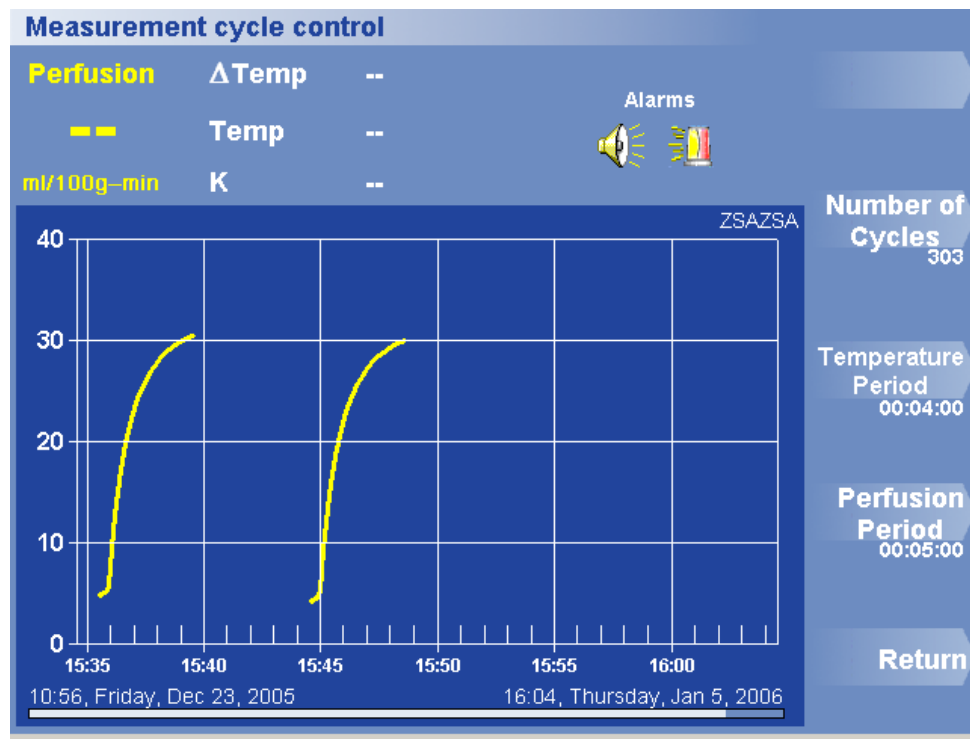

Figure 38. Measurement Cycle Control Menu
1. Press Options > More Options > Measurement Cycle Control. The Measurement Cycle Control menu appears (Figure 38). The number of cycles currently set appears under Number of Cycles.
1. Press Options > More Options > Measurement Cycle Control. The Measurement Cycle Control menu appears (Figure 38). The current length of the temperature stabilization period appears under Temperature Period.
1. Press Options > More Options > Measurement Cycle Control. The Measurement Cycle Control menu appears (Figure 38). The current length of the perfusion measurement period appears under Perfusion Period.